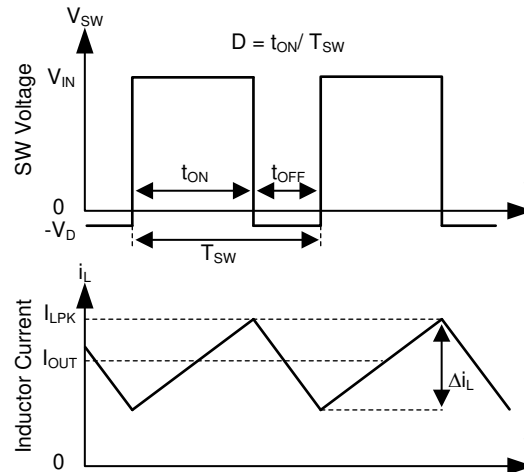

图 10-1. SW Node and Inductor Current Waveforms in Continuous Conduction Mode (CCM)
The following operating description of the TPS2583x-Q1 will refer to the and the waveforms in 图 10-1. TPS2583x-Q1 is a step-down synchronous buck regulator with integrated high-side (HS) and low-side (LS) switches (synchronous rectifier). The TPS2583x-Q1 supplies a regulated output voltage by turning on the HS and LS NMOS switches with controlled duty cycle. During high-side switch ON time, the SW pin voltage swings up to approximately V_{IN} , and the inductor current i_L increase with linear slope $(V_{IN} - V_{OUT}) / L$. When the HS switch is turned off by the control logic, the LS switch is turned on after an anti-shoot-through dead time. Inductor current discharges through the LS switch with a slope of $-V_{OUT} / L$. The control parameter of a buck converter is defined as Duty Cycle $D = t_{ON} / T_{SW}$, where t_{ON} is the high-side switch ON time and T_{SW} is the switching period. The regulator control loop maintains a constant output voltage by adjusting the duty cycle D . In an ideal buck converter, where losses are ignored, D is proportional to the output voltage and inversely proportional to the input voltage: $D = V_{OUT} / V_{IN}$.